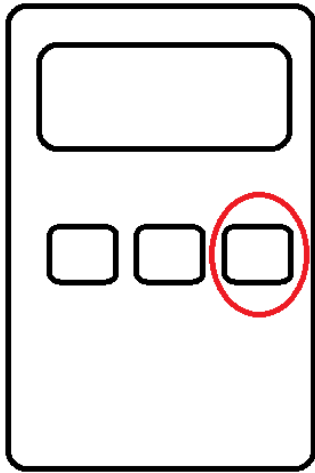

Fig 2
- 2) Pressing the Right side button as Fig2.